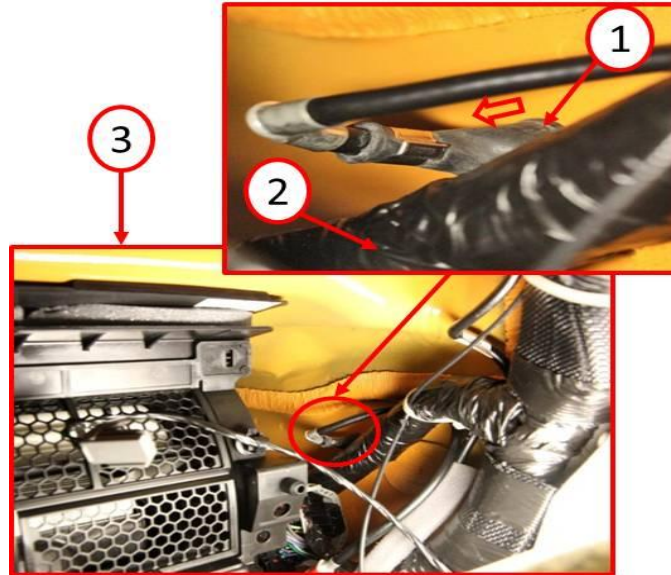

Fig. 7 Antenna Grommet Inspection
14. Through the glove box opening (3) with the passenger side speaker and glove box removed verify that the antenna grommet (1) is properly seated to the inner body side (Fig. 7).